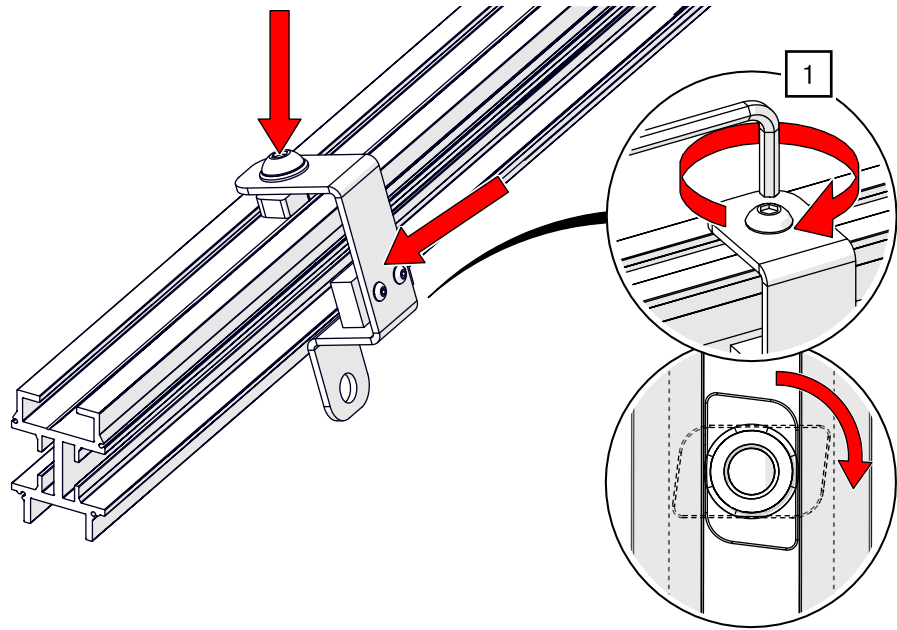

Fig. 66: BELT-TRACK end stop – Install end stop
1. Hang the pre-assembled end stop in the track profile and tighten the screw with T-slot nut using an Allen key AF 5 and 27 Nm (see Fig. 66).